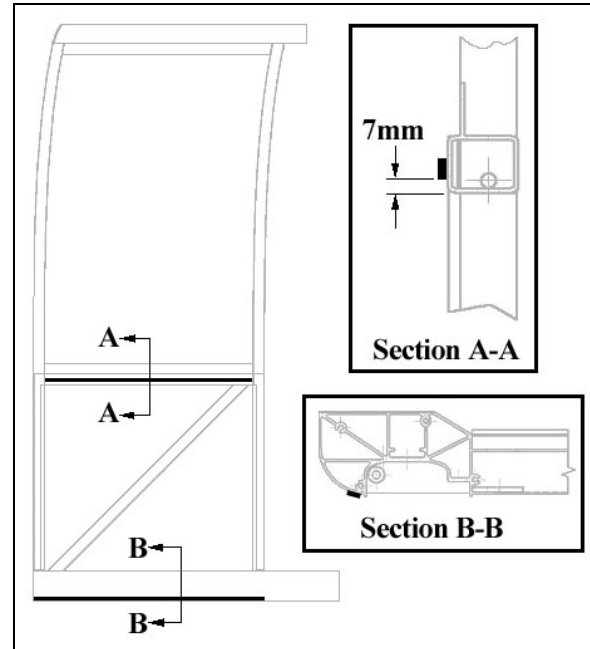

FIGURE 41 : SIDE PANEL INSTALLATION – DOUBLE FACE ADHESIVE TAPE APPLICATION ON THE SLIDE-OUT STRUCTURE
2. Refer to FIGURE 41 for 1/16x1/4 double face adhesive tape location on structure;